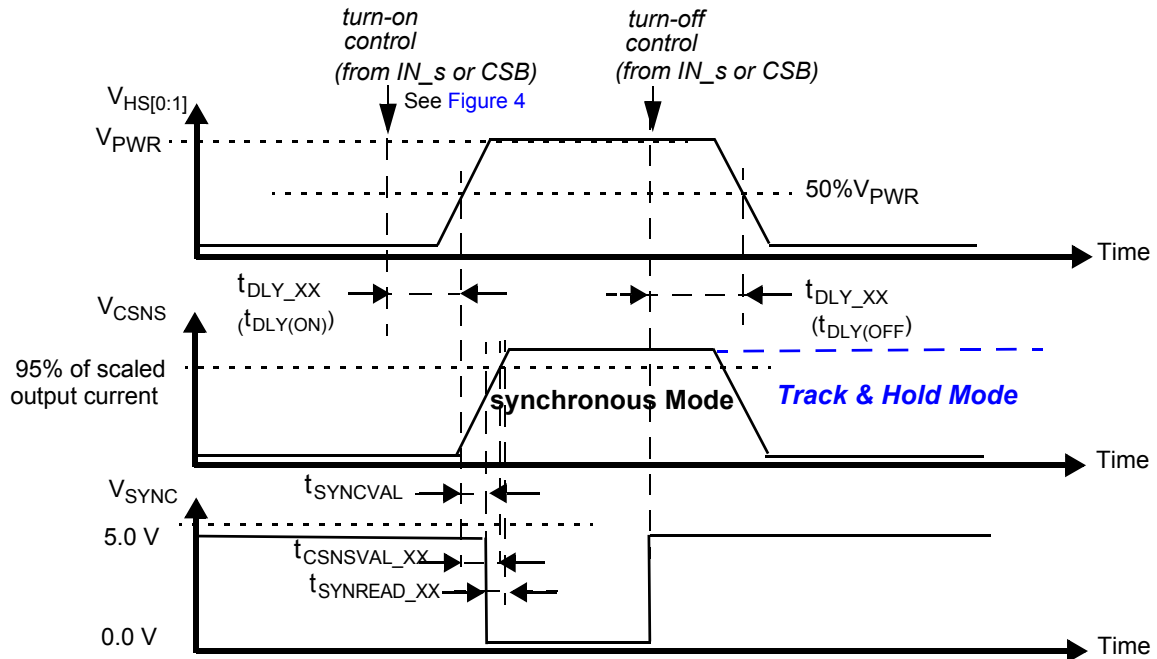

Figure 9. Synchronous and track-and-hold current sensing modes: associated delay & settling times
30. Time required to switch off the channel after detection of overtemperature (OT), overcurrent (OC), SC or UV error (time measured between start of the negative edge on the FSB pin and the falling edge on the output voltage until $V(\text{HS}[0:1]) = 50\%$ of V_{PWR}).
31. Settling time (= $t_{CSNSVAL_XX}$), SYNC output signal delay (= $t_{SYNCVAL_XX}$) and Read-out delay (= $t_{SYNREAD_XX}$) are defined for a stepped load current ($100\text{ mA} < I(\text{LOAD}) < I_{OCLX_A}$ FOR $\text{CSNS_RATIO_S} = 1$, AND $300\text{ mA} < I(\text{LOAD}) < I_{OCLX_A_0}$ FOR $\text{CSNS_RATIO_S} = 0$). (see Figure 9 and Output current monitoring \(CSNS\))
The CS pin allows independent current monitoring of channel 0 or channel 1 up to the steady-state overcurrent threshold. It can also be used to sense the device temperature. The different functions are selected by setting bits CSNS1_en and CSNS0_en to the appropriate value (Table 23). When the CSNS pin is sensed during switch-off in the (optional) track & hold mode (see Figure 9), it outputs the scaled value of the load current as it was just before turn-Off. When several devices share the same pull-down resistor, the CSNS pins of devices the current of which is not monitored must be tri-stated. This is accomplished by setting CSNS0_en = 0 and CSNS1_en = 0 in the GCR register (Table 10). Settling time ($t_{CSNSVAL_XX}$) is defined as the time between the instant at the middle of the output voltage's rising edge ($HS[0:1] = 50\%$ of V_{PWR}), and the instant at which the voltage on the CSNS-pin has settled to $\pm 5.0\%$ of its final value. Anytime an overcurrent window is active, the CSNS pin is disabled (see Overcurrent detection on resistive and inductive loads). The current and temperature sensing functions are unavailable in Fail-safe mode and in Normal mode when operating without the V_{DD} supply voltage. In order to generate a voltage output, a pull-down resistor is required ($R(CSNS)=1.0$ k Ω typ. and $470 < R(CSNS) < 10$ k). When the current sense resistor connected to the CSNS pin is disconnected, the CSNS voltage is clamped to $V_{CL(CSNS)}$. The CSNS pin can source currents up to about 5.6 mA.
To synchronize current sensing with an external process, the SYNC signal can be connected to a digital input of an external MCU. SYNC is asserted logic low when the current sense signal is accurate and ready to be read. The current sense signal on the CSNS pin has the specified accuracy $t_{SYNREAD_XX}$ seconds after the falling edge on the SYNC pin (Figure 9) and remains valid until a rising edge is generated. The rising edge that is generated by the SYNC pin at the turn-OFF instant (internal or external) may also be used to implement synchronization with the external MCU. Parameter $t_{SYNCVAL_XX}$ is defined as the time between the instant at the middle of the output-voltage rising edge ($HS[0:1] = 50\%$ of V_{PWR}), and the instant at which the voltage on the SYNC-pin drops below 0.4 V (V_{SOL}). The SYNC pins of different devices can be connected together to save μ -controller input channels. However, in this configuration, the CSNS function of only one device should be active at a time. Otherwise, the MCU does not determine the origin of the SYNC signal. The SYNC pin is open drain and requires an external pull-up resistor to VDD.